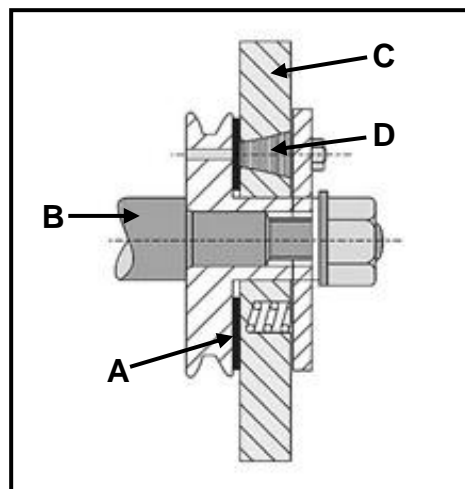

FIGURE 6.2
6.2 FIGURE 6.2 below shows a combined rubber and friction disc vibration damper used on an internal combustion engine. Answer the questions that follow.